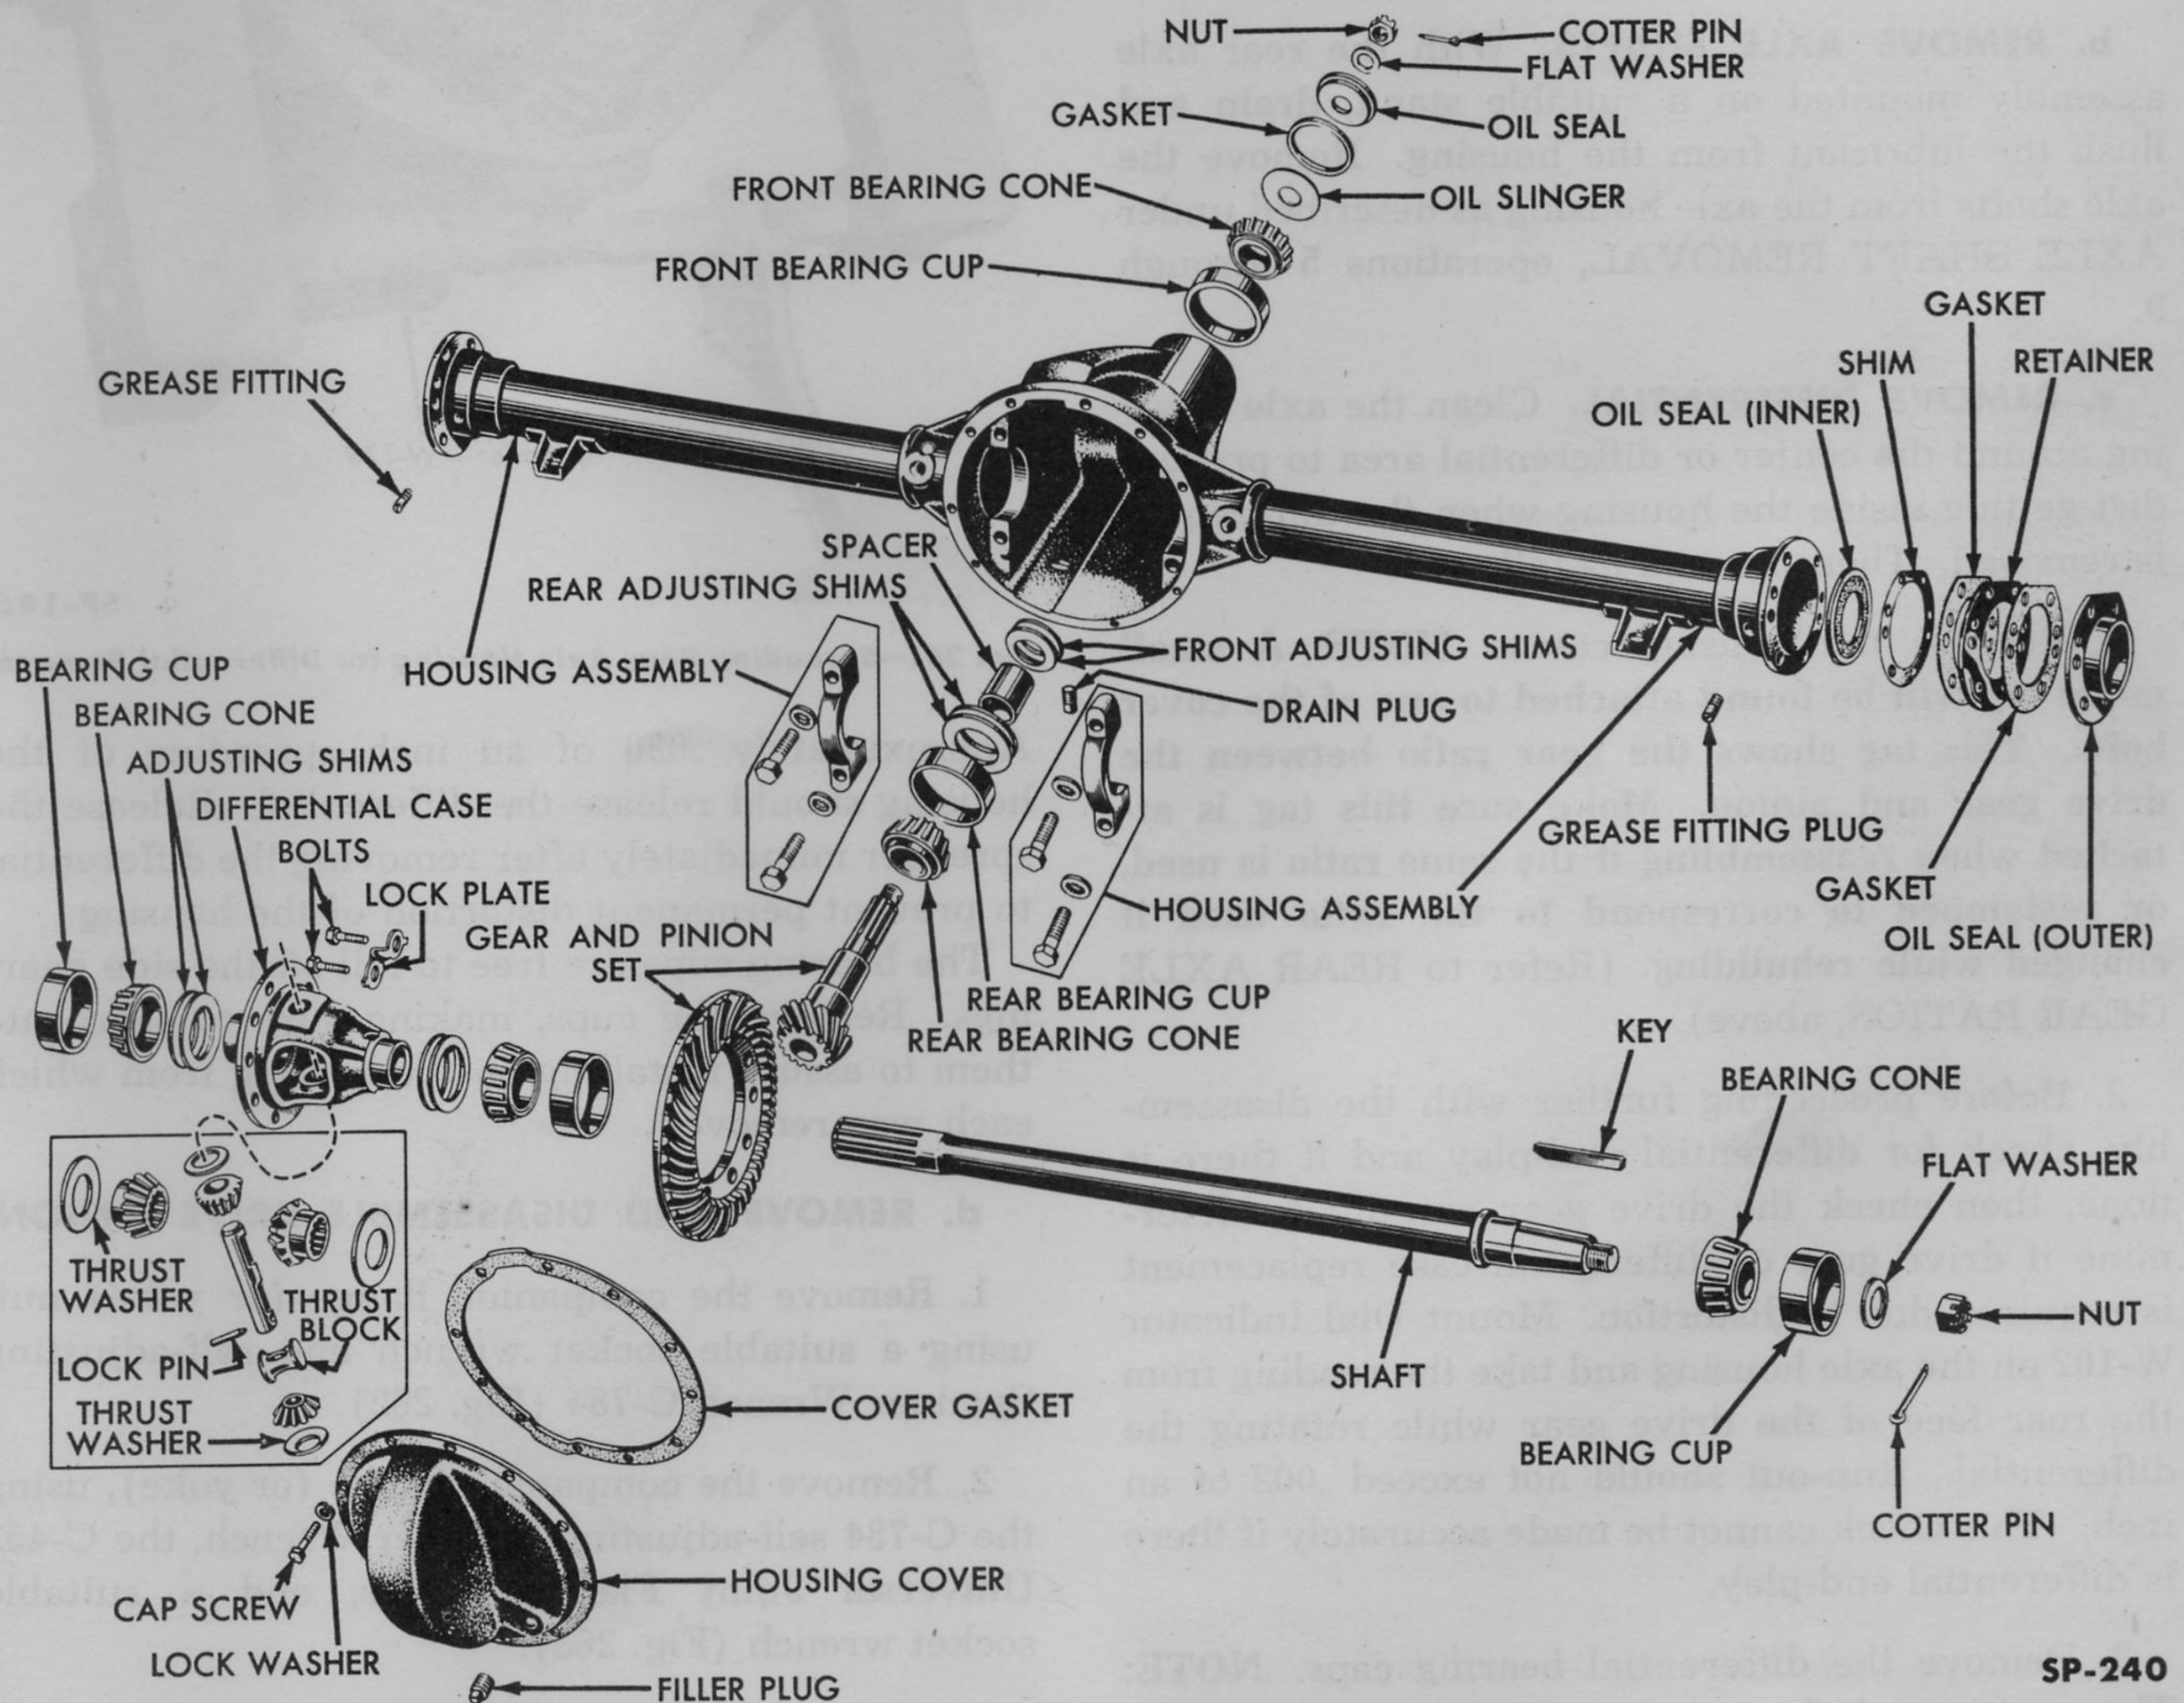

Fig. 260—Rear Axle Assembly—Exploded View
The rear axle assembly consists of two axle shafts and a series of precision fitted gears and bearings. These parts are illustrated and identified in Fig. 260. For proper operation, tolerances are close and are controlled by the use of shims.
1. Assemble the differential gears, thrust washers, pinion shaft, thrust block, and locking pin in the case (Fig. 260). Position the thrust block so that the ends face toward the axle shafts. The gears should rotate freely **without binding**. Peen the case to lock the shaft pin in place.